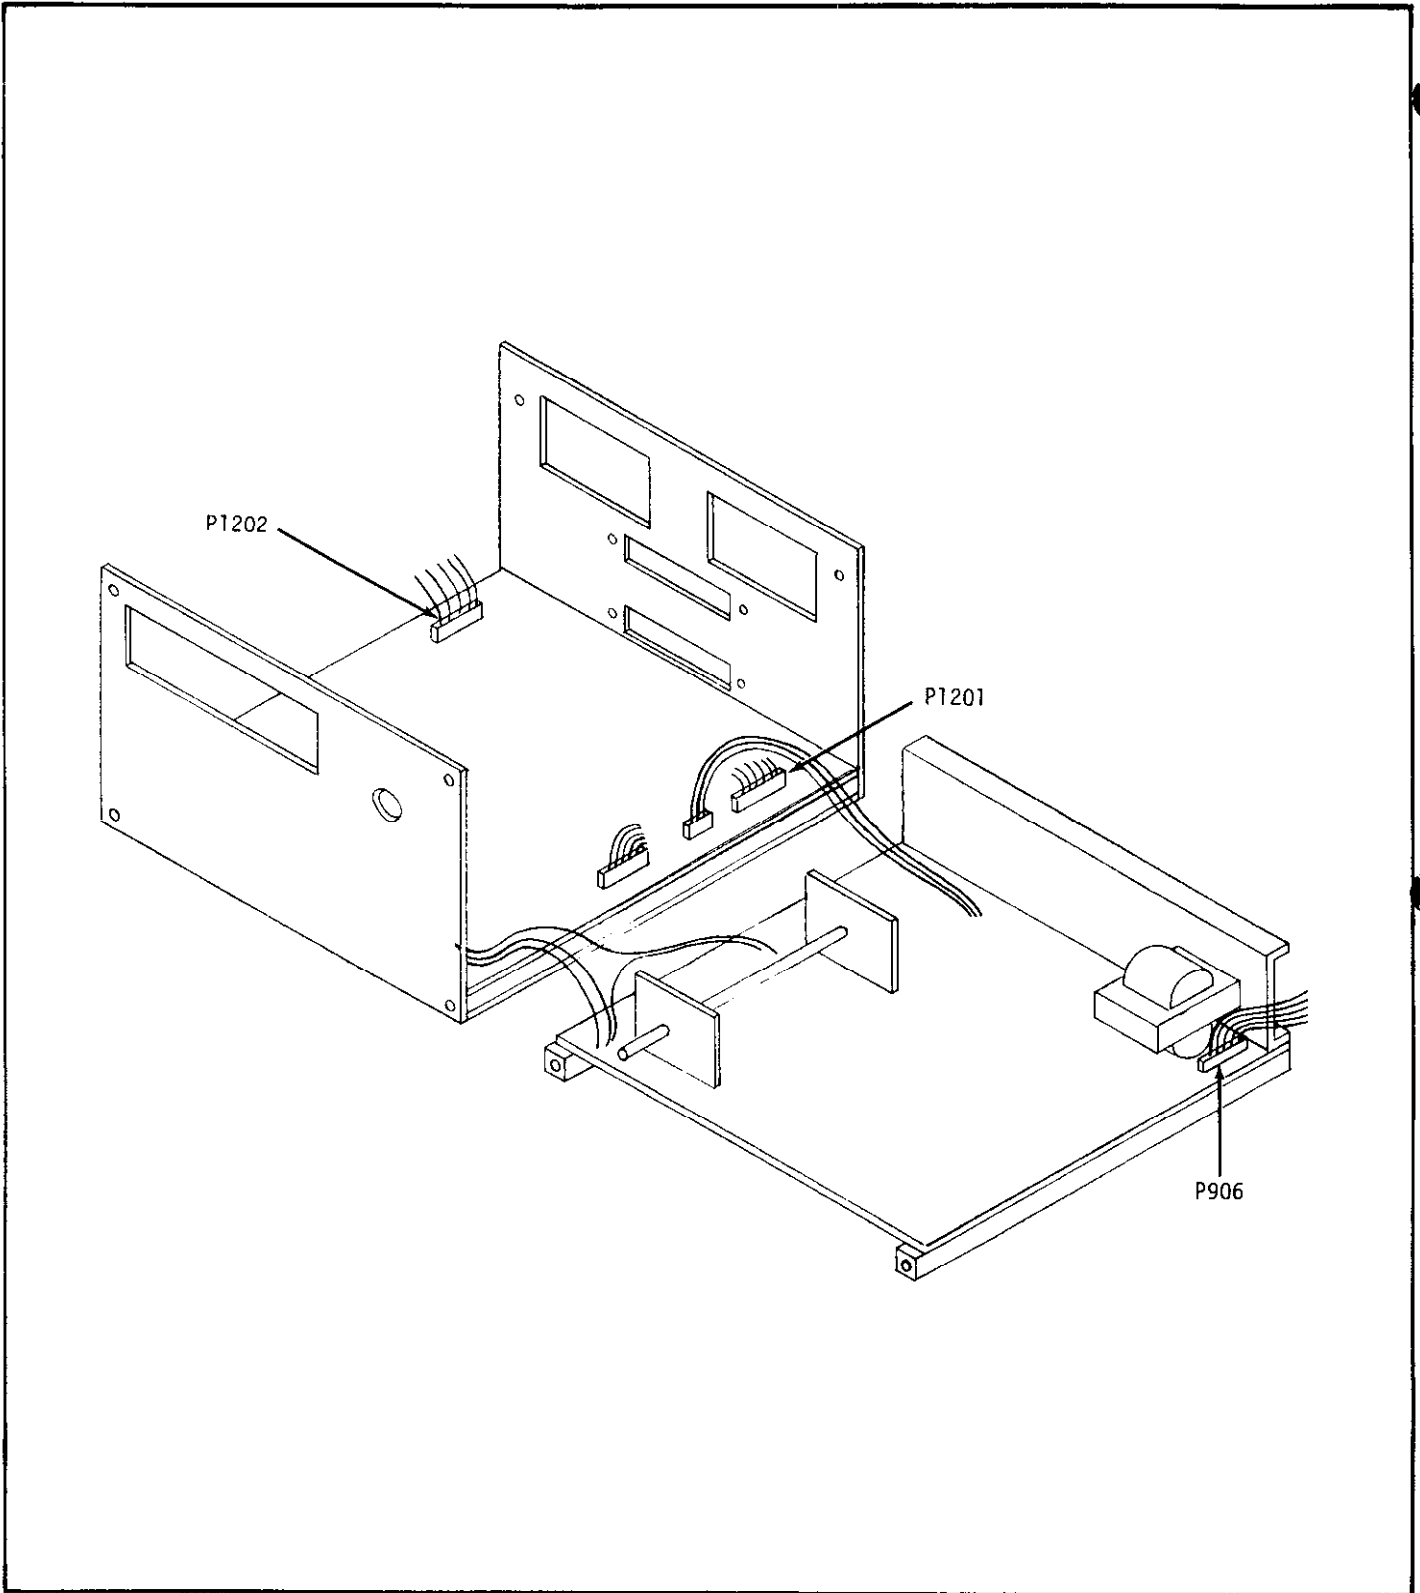

FIGURE 15. Servicing of Chassis.
5. Separate the circuit board assembly from the chassis as shown in Figure 15.